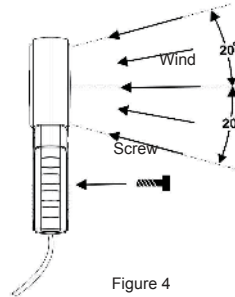

Figure 4
## Measuring Air Velocity (Air Temperature)(See Figure 4)
4. As shown in Figure 4, place the anemoscope in a direction as marked on inner side of the fan. And secure the handle with a screw (the user needs to buy the screw on his/her own).
6. To obtain a accurate reading, please hold the anemoscope horizontally as in the Figure 4, the angle deviation should be <20°.